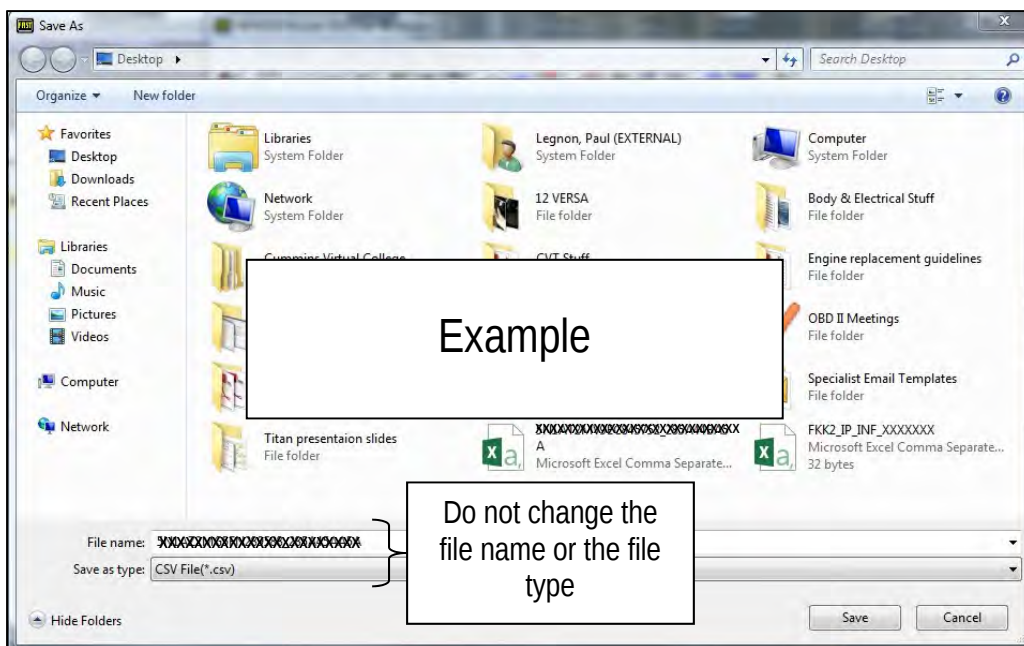

Figure 6
- After selecting the blue CONSULT button in step 6, a screen showing your computer's desktop with the CSV file should display (see Figure 6, this is the VIN specific configuration file).